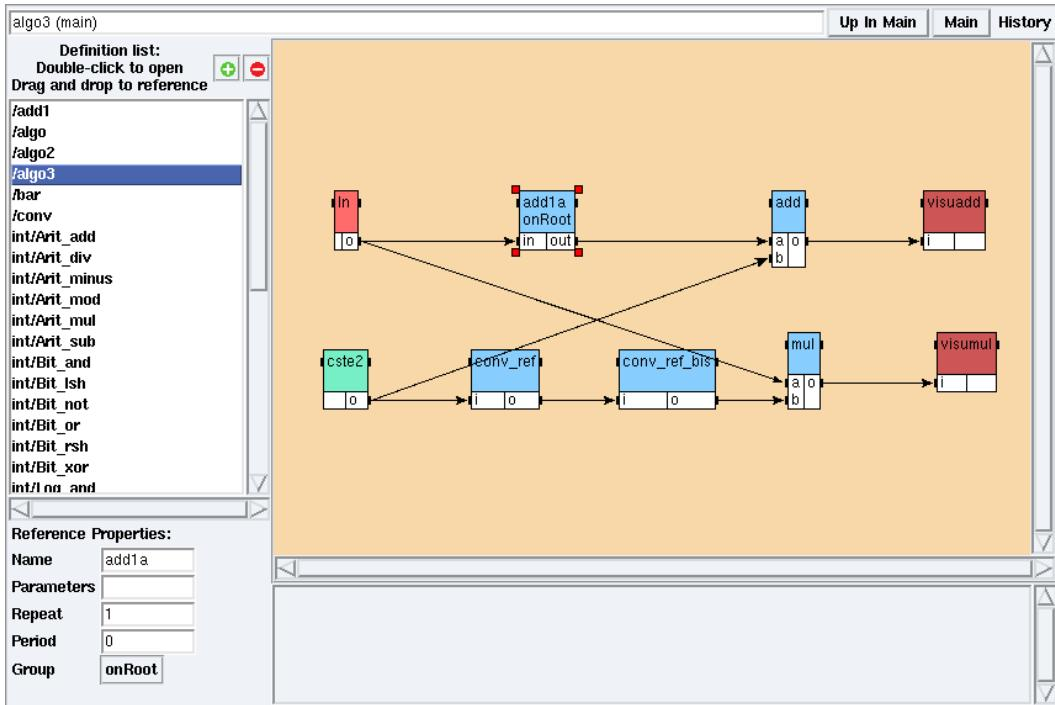

Figure 7.1: Main algorithm after adding 'bar_ref'
- in the algo2 definition window: first delete the conv_ref_bis reference, then create a reference bar_ref box to the definition bar, finally create the missing dependences. The main algorithm should look like the figure 7.1.